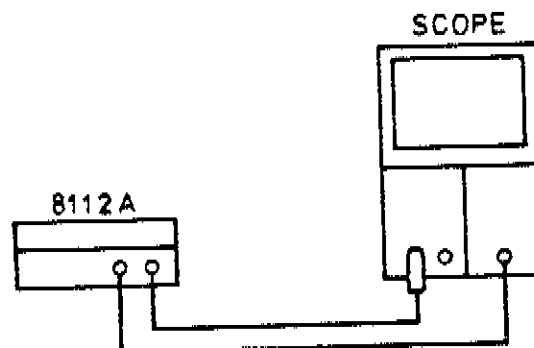

Figure 4-8(A). Equipment setup for Pulse performance test.
1. Connect equipment as shown in Fig. 4-8(A).